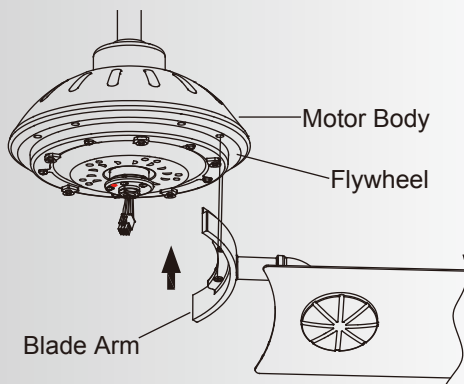

Fig. 17
Step 2. Fasten blade assembly to the holes located on the bottom of the flywheel. Tighten the two "pre- installed" motor screws in the blade arm. Repeat steps for the remaining blades assemblies. (Fig. 17)